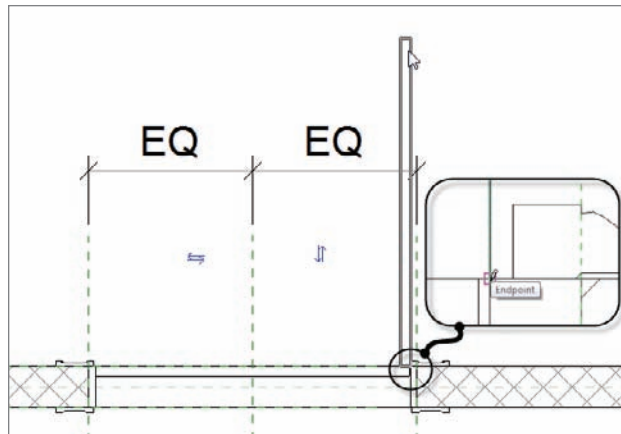

FIGURE 17.27 Drawing the symbolic door swing
2. Draw a line straight up from the right corner of the jamb (on the exterior side of the wall) 4'-0", as shown in Figure 17.27.
5. Draw another line to the right 1 3/8" (see Figure 17.27).